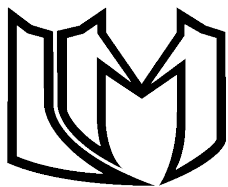

**Fig.1**
- 1) Remove or move any zip ties that are running through the cross member frame holes or below the rectifier on the front of the bike. Also remove the cross bar between the two brackets holding the motor. **See Fig.1**